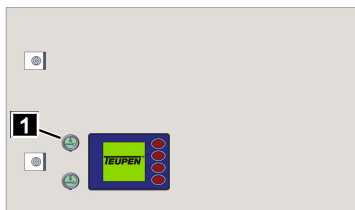

Fig. 110
2. Press and hold the [button] (Fig.110/1) until the profile package lifts and then stops by itself.